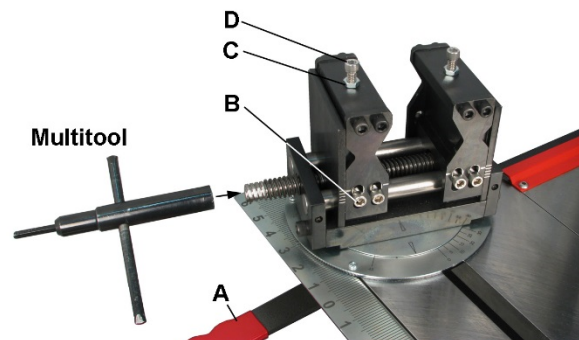

Figure 9-1
1. Move handle (A) to unlock, and slide vise laterally into position.
3. Position workpiece in vise and use provided multi-tool to close vise jaws. See Figure 9-1.
4. Tighten handle (A) before operating.